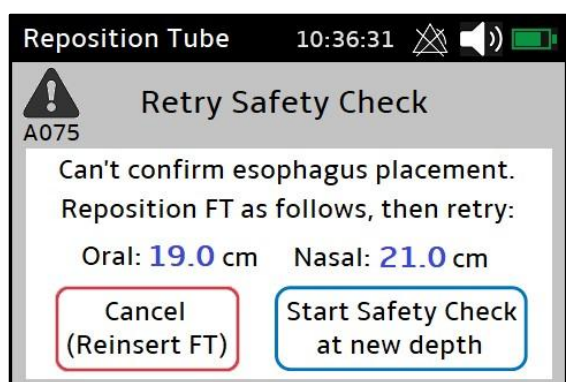

Figure 9: Retry Safety Check at New Depth
- If the initial data is inconclusive, a "Retry Safety Check" message is shown (Figure 9), which prompts the user to advance the feeding tube slightly deeper than the initial estimate and then start a 2nd Safety Check attempt.